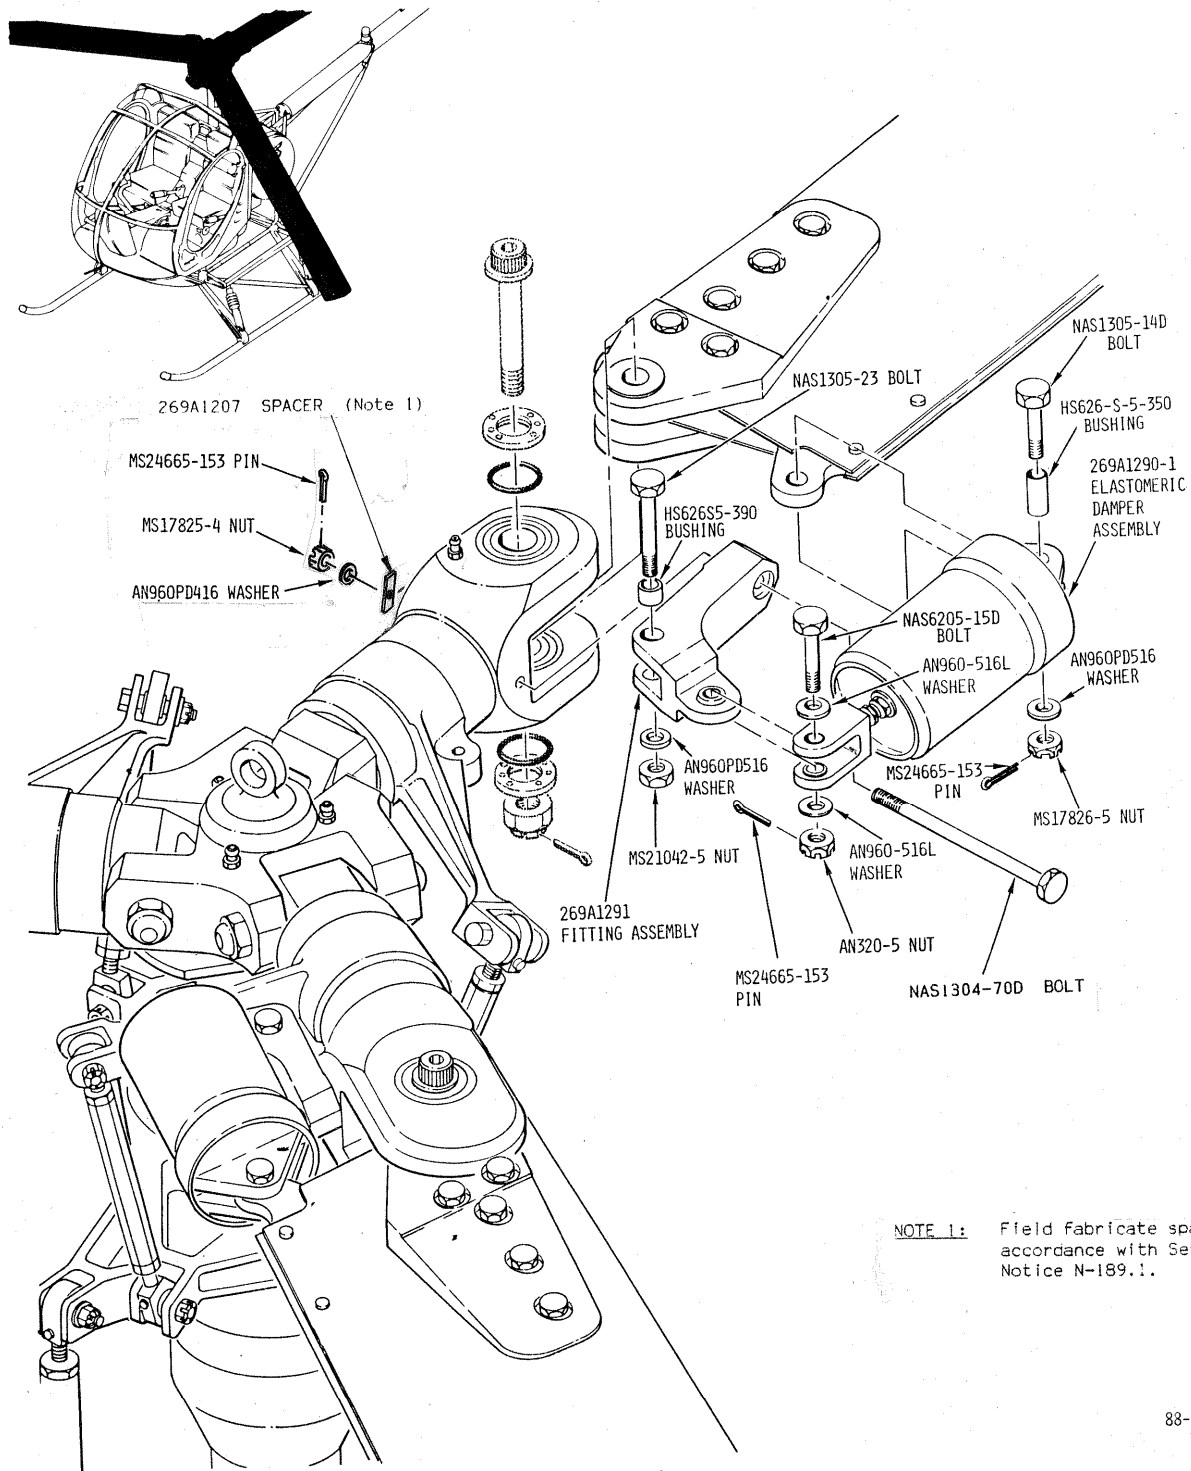

Figure 1. Installation of 269A1290-1 Main Rotor Damper Assembly
- (1) Insert horizontal bolt NAS1304-70D through fitting, pitch housing, and spacer as shown in Figure 1; secure bolt with AN960PD416 washer and MS17825-4 nut. If castellation of nut does not line up with cotter pin hole, advance nut to next hole. Add washers as required to stay within torque limits. Install cotter pin.
- (2) Insert vertical bolt NAS1305-23 with HS626-S-5-390 bushing through fitting and pitch housing lug as shown; secure bolt with AN960PD516 washer and MS21042-5 nut. Check for interference, and clear if required.